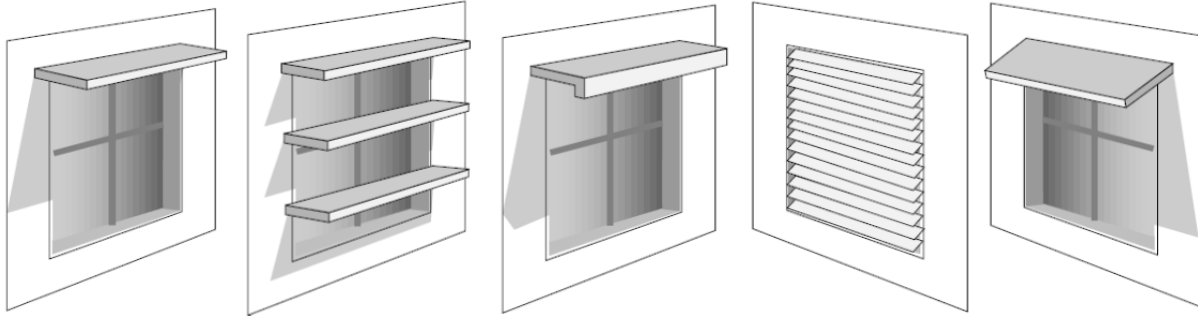

Figure 19: Far left, a standard horizontal overhang shade, and other shading options with reduced projection from the envelope
- **Use exterior shading**, either a device attached to the building skin or an extension of the skin itself, to keep out unwanted solar heat. Exterior systems are typically more effective than interior systems in blocking solar heat gain. Figure 19 illustrates some exterior shading options. Making these operable for occupants provides the greatest potential benefit in terms of occupant satisfaction (and, potentially, energy savings).